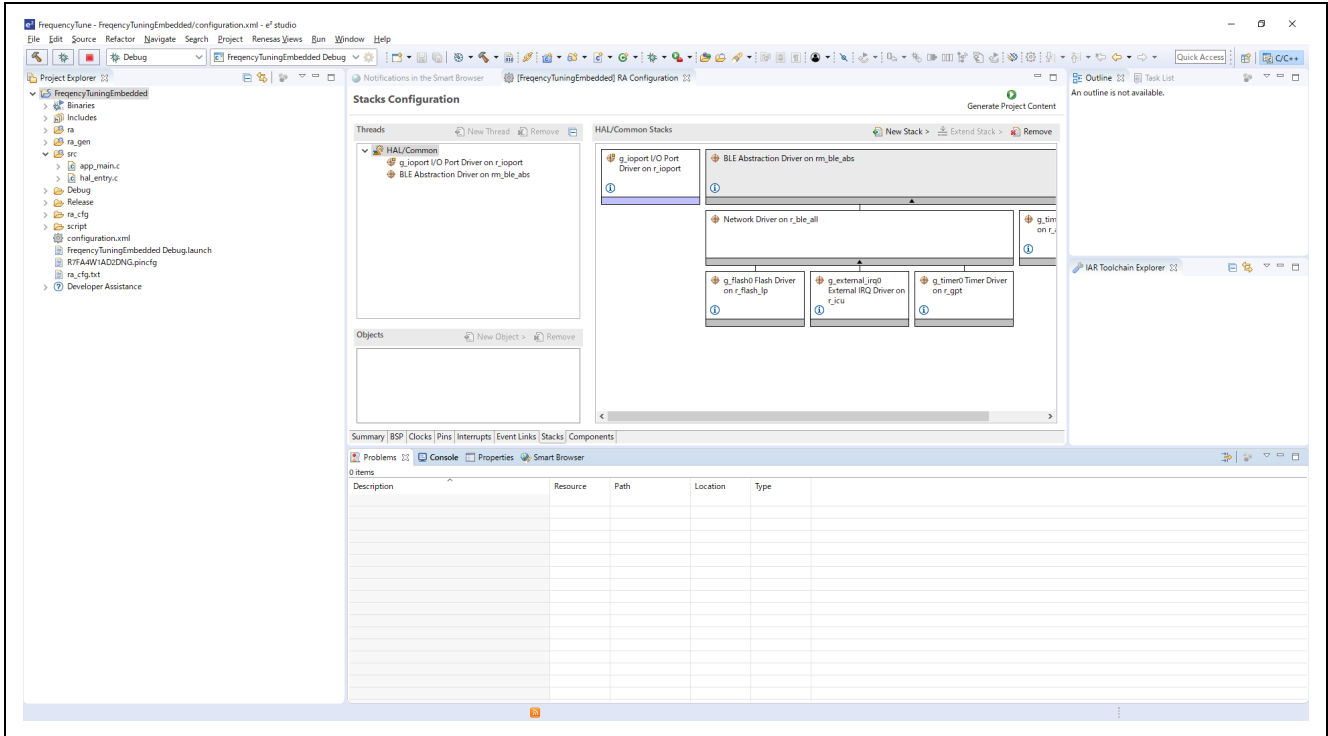

Figure 6-8. Stacks Tab of RA configurator
10. Select [Stacks] Tab and then following dialog will appear (Figure 6-8)